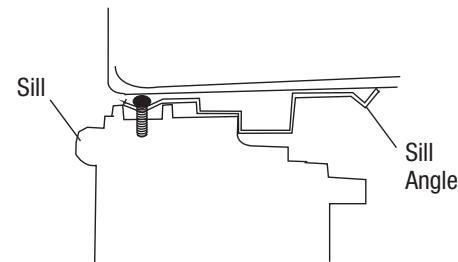

FIG. 12
2. Place cabinet in window with bottom sill angle firmly seated over window sill as shown. Bring window down temporarily behind top angle to hold cabinet in place. (Fig. 12)